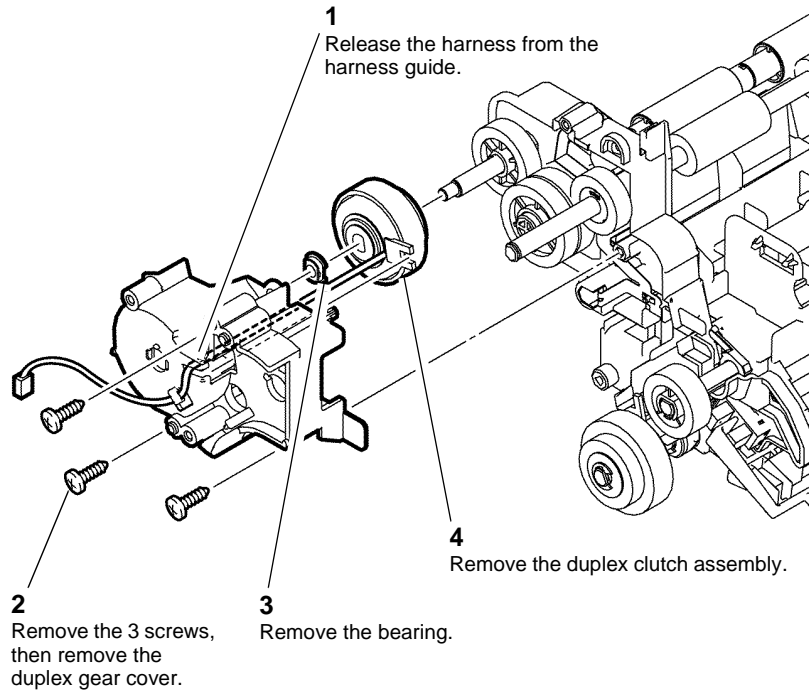

Figure 1 Duplex clutch assembly
2. Remove the duplex clutch assembly, Figure 1.